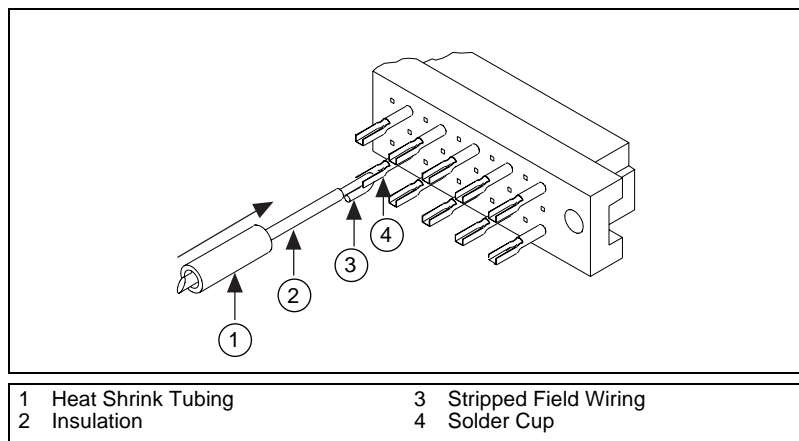

Figure 1. SBS-96F Field Wiring Termination Diagram
To connect field signals to the SBS-96F, refer to Figures 1, 2, and 3 as you perform the following steps.
4. Hook and solder the wiring to the appropriate solder cups (see Figure 1). You may need to trim individual wires to the appropriate length for a good fit in the backshell before soldering. Consult your SCXI module or VXI-DAQ module documentation for pinout information before wiring.
Figure 1 shows the field wiring termination of the 96-pin connector.